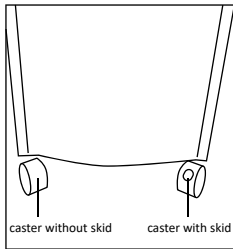

Fig. 1
2. Assembly the castors at the bottom of the unit with the provided wrench. Casters with skid are for the forntal holes, while the ones without skid are for the rear holes. (Fig. 1)